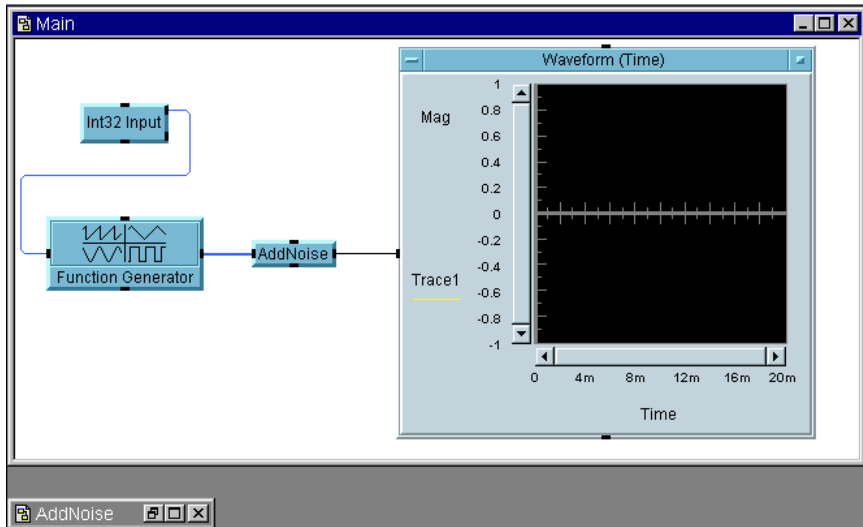

Figure 2-7. Int32 Input Added to usrobj-program.vee
4. Connect the top output pin of the `Int32 Input` object to the input pin on the `Function Generator`. Notice that `Frequency` can only be changed through the input pin now, and you can no longer edit the `Frequency` input field. The program should look like Figure 2-7.